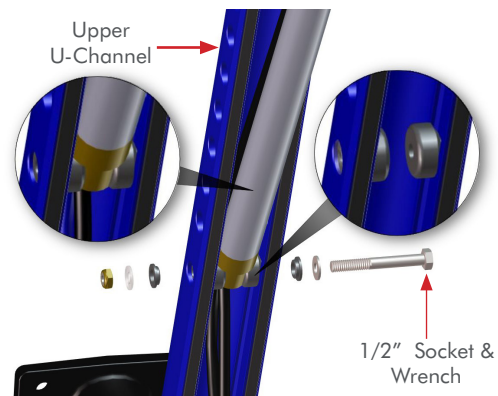

Figure 11
STEP 8 Insert the bottom of the **Cylinder** into the **Upper U-Channel** and reinstall hardware using a **1/2" socket & wrench**. **FIG 11**